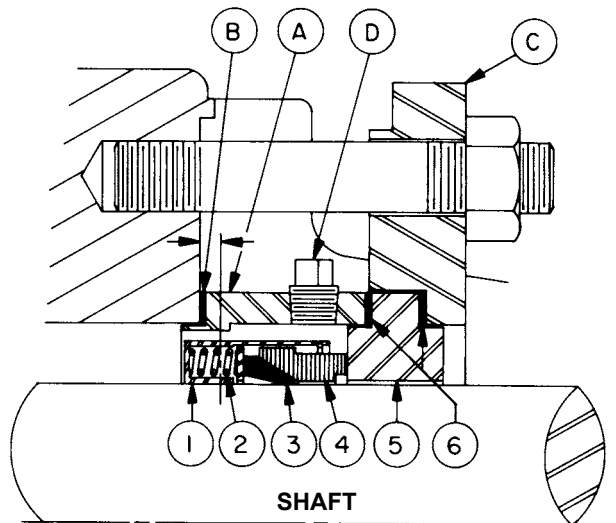

FIGURE 18
Three components are furnished in mechanical seal assembly: Refer to **figure 18**, item numbers 1 thru 6.
Three pump parts necessary for mounting PTFE mechanical seal are illustrated in **figure 18**, item letters A, B, C and D.
5. Loosen set screws in mechanical seal retainer cartridge and remove from rotor shaft. Refer to figure 18.
4. Place tapered installation sleeve (if on hand) and install seal on shaft over tapered sleeve. Position seal inside rotor bearing sleeve bore with end of seal located .19 inch inside machined face of rotor bearing sleeve. **Refer to Figure 18.**
8. Place seat gasket over shoulder of stationary seal seat and insert set into seal plate. Place remaining seat gasket over shoulder of polished surface of stationary seat. **Refer to Figure 18.**